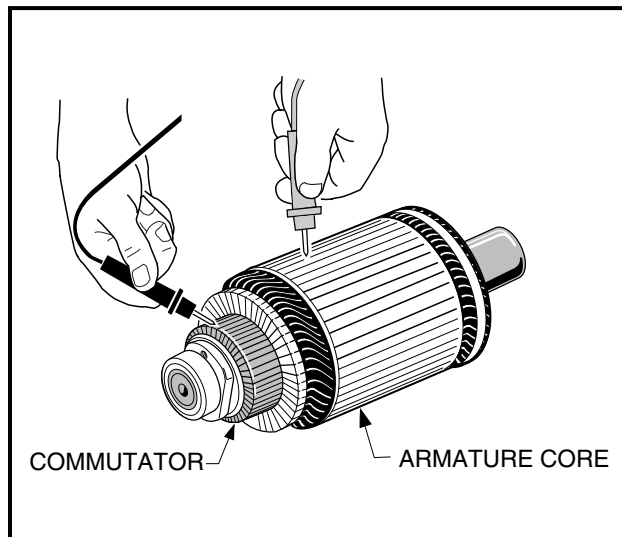

Figure 15-7 Armature
1. With a multimeter set to 200  $\Omega$  (ohms), place one probe on the commutator and the other on the armature core. The multimeter should indicate no continuity (**Figure 15-7, Page 15-6**). If the reading is incorrect, replace the armature.